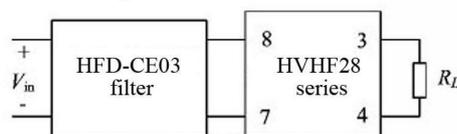

Fig.11 Connection diagram for EMI filter
(3) Connection diagram for EMI filter (Fig.11)